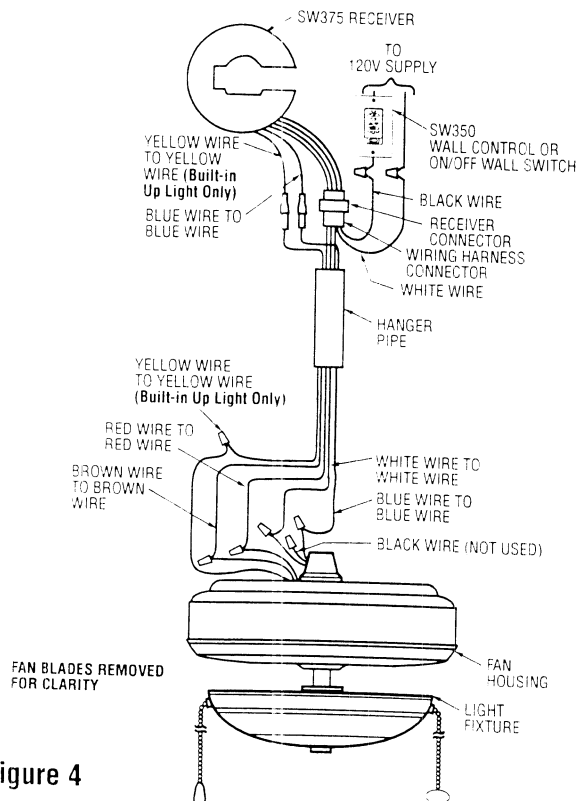

Figure 4
- Using wiring connectors supplied, connect the white, red, yellow, blue, and brown wires of the wiring harness to the white, red, yellow, blue, and brown wires of the ceiling fan (Figure 4). Wires must be connected color-to-color.
15. Connect the black wire from the wiring harness to the black (hot) supply wire (Figure 4). Connect the white wire from the wiring harness to the white (neutral) supply wiring. Connect the green ground wires from the hanger bracket and the hanger ball to the supply ground wire. Use wire connectors supplied with your ceiling fan.
16. Securely connect the wiring harness connector to the receiver connector, and connect the blue and yellow wires (yellow wire is used only on a fan with a built in Uplight) to the blue and yellow wires from the receiver (Figure 4).